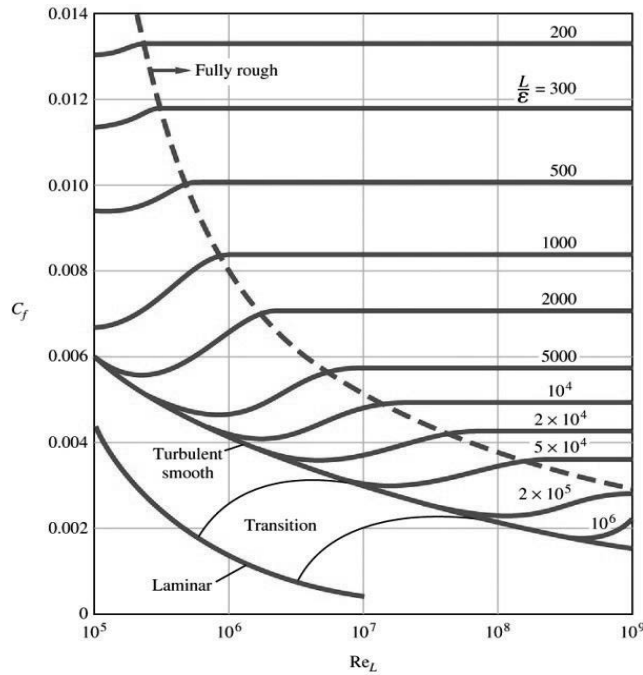

Figure E3 Average friction coefficient for flow over smooth and rough flat plates, White (1999)
The average friction coefficient over the whole plate C_f is a function of the surface roughness for the turbulent boundary layer and also a function of the Reynolds number based on the length of the plate Re_L ; see figure E3 in Exercise 8. This friction coefficient can be determined in Flow Simulation by using the final value of the global goal, the X-component of the Shear Force F_f and dividing it by the dynamic pressure times the area A in the X-Z plane of the computational domain related to the flat plate; see figure 2.28a) for the size of the computational domain.
- 2.8 Use different fluids, surface roughness, free stream velocities and length of the computational domain to compare the average friction coefficient over the entire flat plate with figure E3.